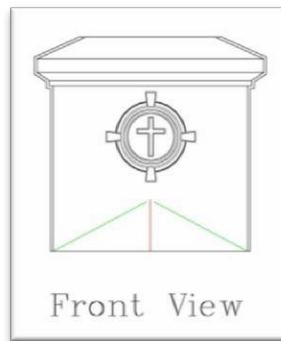

Figure D8: Marking pitch cut.
Step 8: Draw a line on the top of the pitch gauge. Draw the line from the inner side marks to the top of the pitch gauge. If you are using a homemade pitch gauge, stop the line, where the 1" x 4" boards intersect at the top. Refer to figure D8.